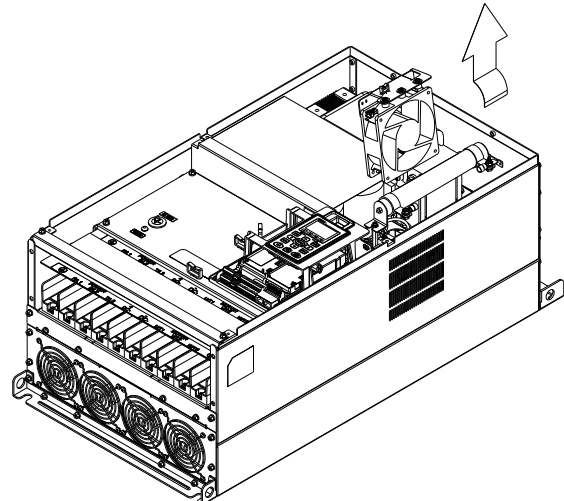

Figure 4
3. Loosen the screws and remove the fan (figure 3 and figure 4). Screw torque: 12–15 kg-cm / [10.4–13 lb-in.] / [1.2–1.5 Nm]